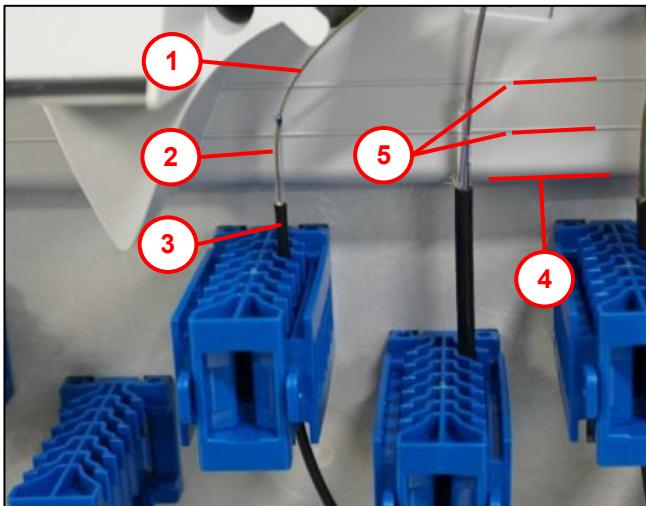

Fig. 40
- Press the micro cable (1) into the clamping points (2), referring to Fig. 40 for the length to be stripped above the clamping points.
- Insert the cover (3). Push the cover back and swivel it fully in until the snap tab (4) audibly clicks into place.